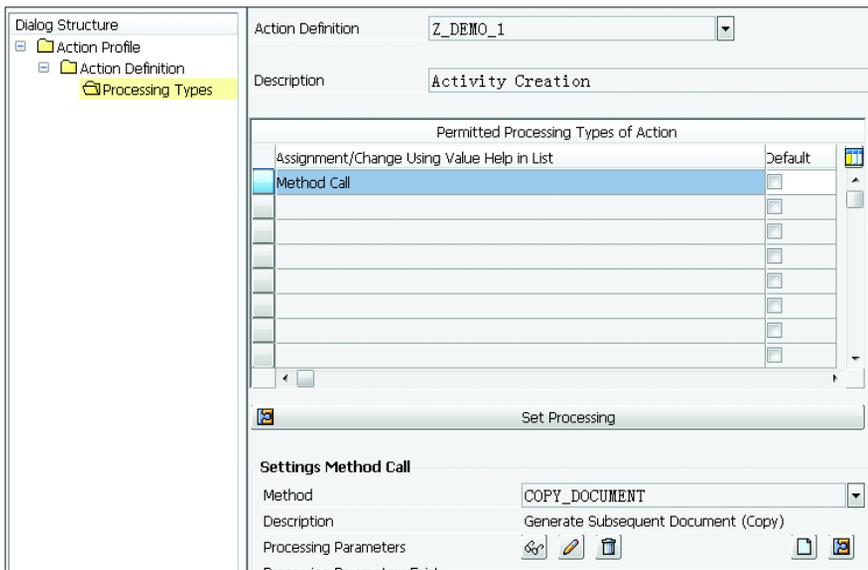

Figure 6.8 Processing Type Definition
2. Assign the processing type **METHOD CALL** to the **METHOD COPY_DOCUMENT**, as shown in Figure 6.8.